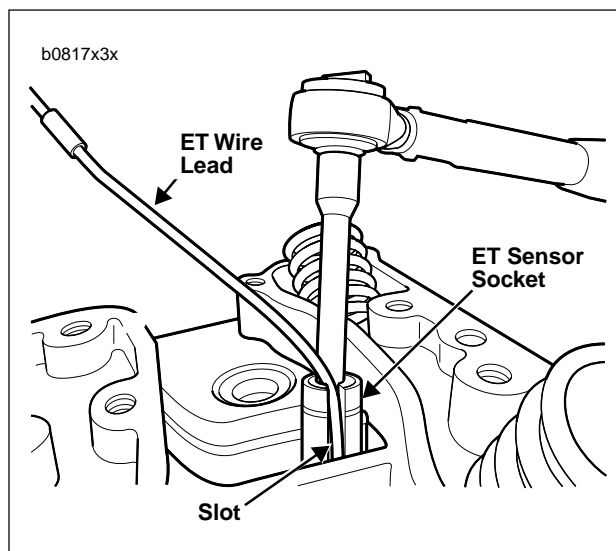

Figure 4-75. Engine Temperature Sensor Installation
1. See Figure 4-75. Screw sensor into rear cylinder head with special ET sensor socket. Make sure wire is in cut-out portion (slot) of socket to prevent damage. Tighten ET sensor to 10-14 ft-lbs (14-19 Nm).